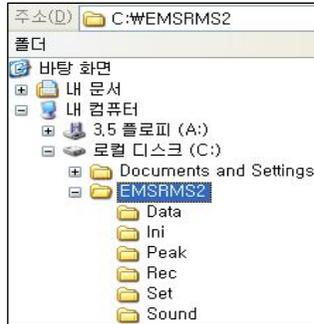

Figure 2 Installation Folder
< Fig.2> List Print
- b. List Print : Measurement List Printing. <Fig. 2> List Print